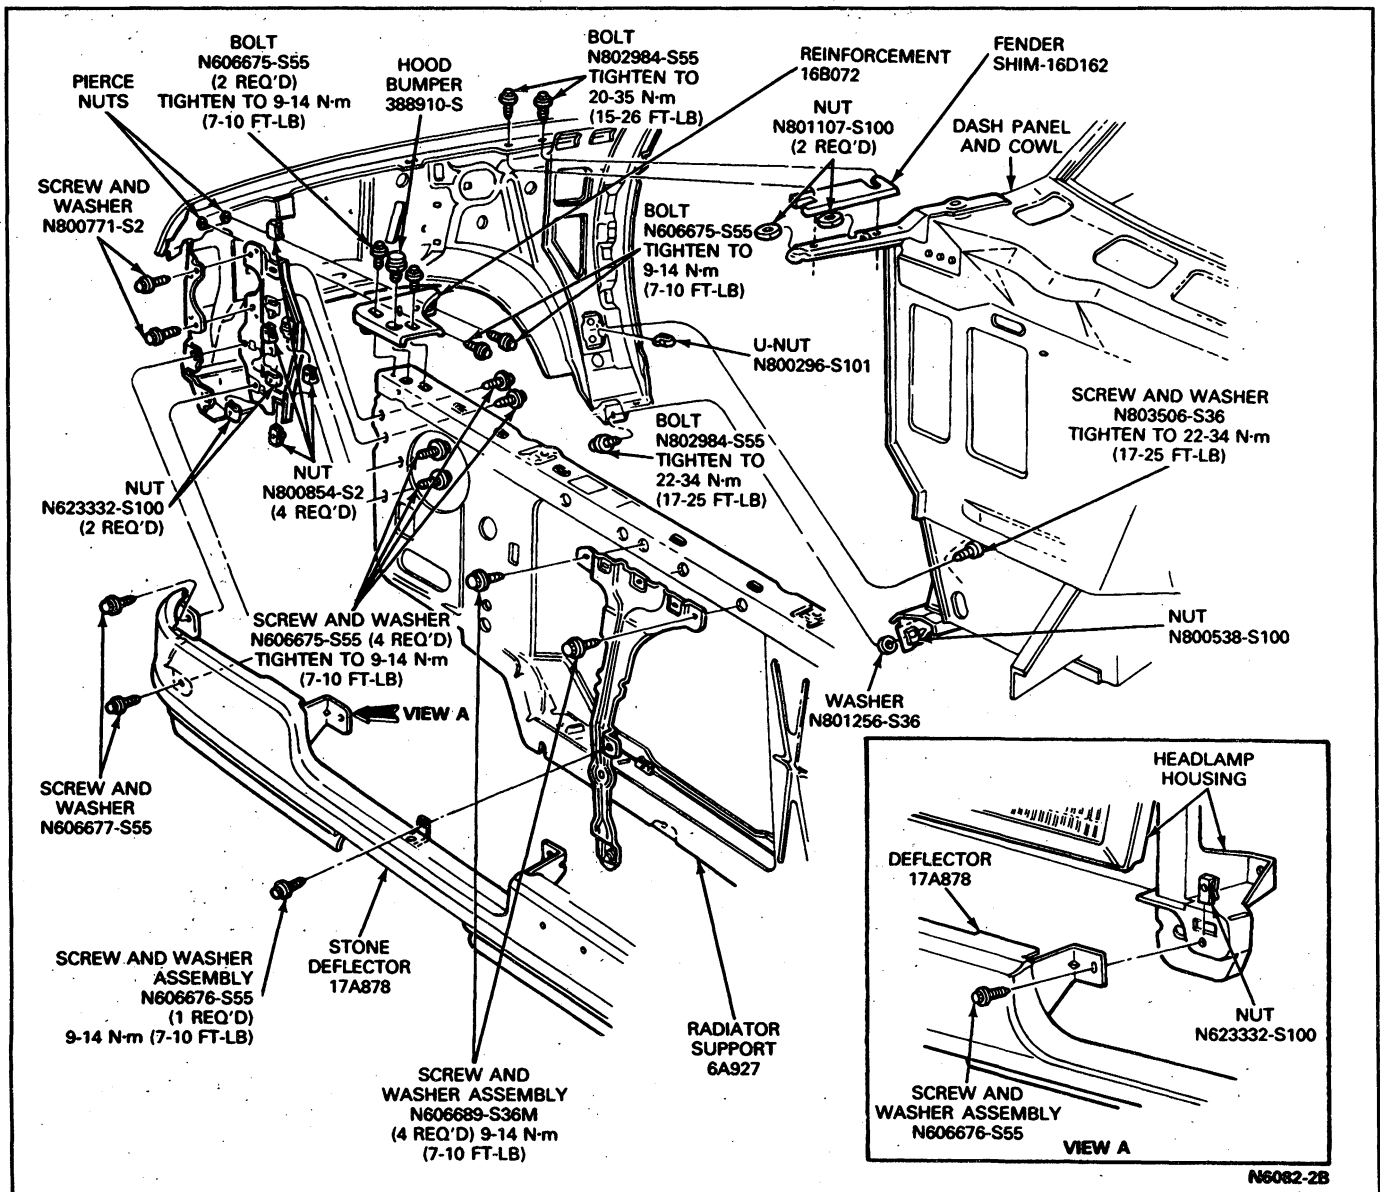

FIG. 2 Front Fender Installation Right Side—F-150—F-350—F-Super Duty and Bronco
4. Remove one screw attaching the rear lower end of the fender to the lower corner of the cab (Fig. 2).